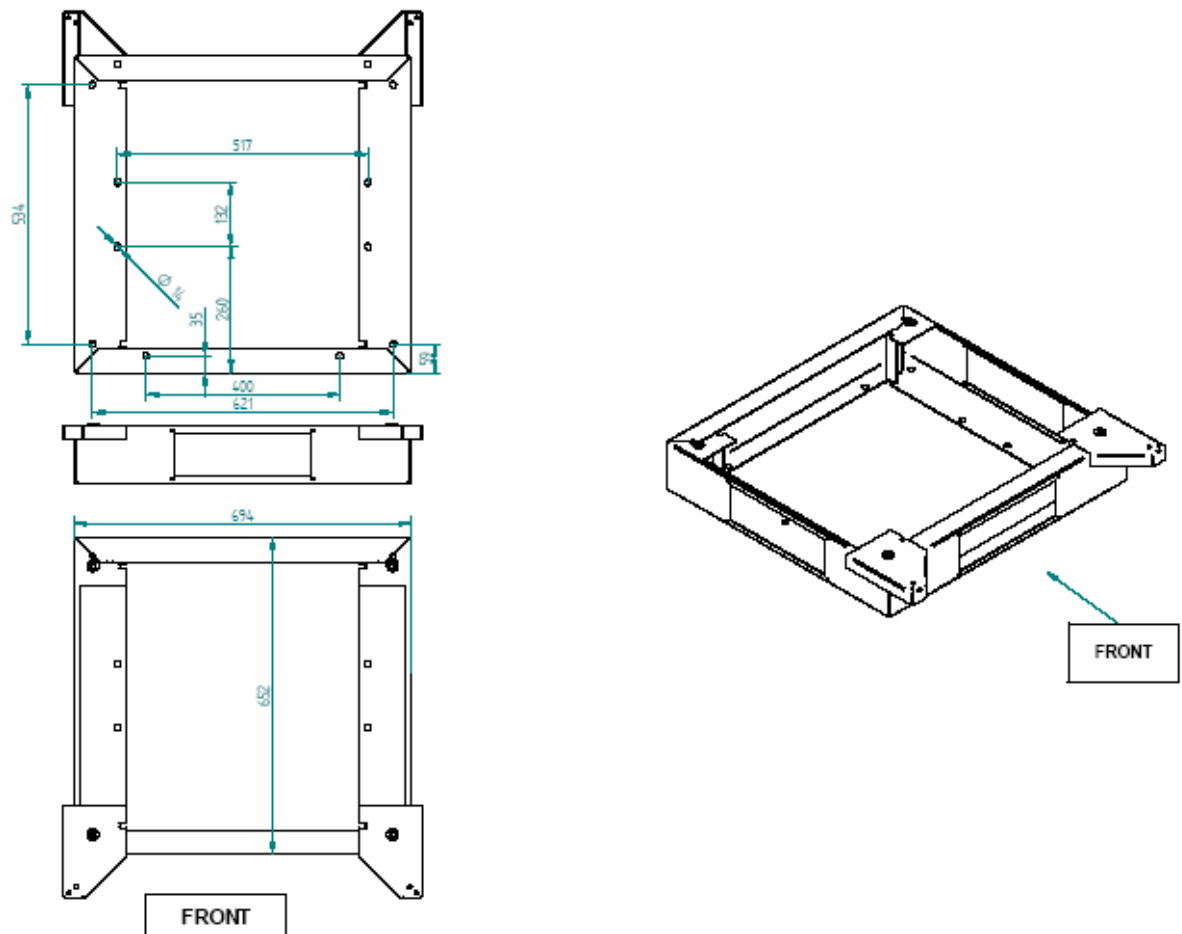

Figure 5. The cabinet plinth.
- Step 7 Bolt the cabinet to the ground by 4 screws (M10/50mm) It is necessary to remove the bottom battery shelf and cabinet floor cover to get access to the plinth mounting holes (Fig 5).